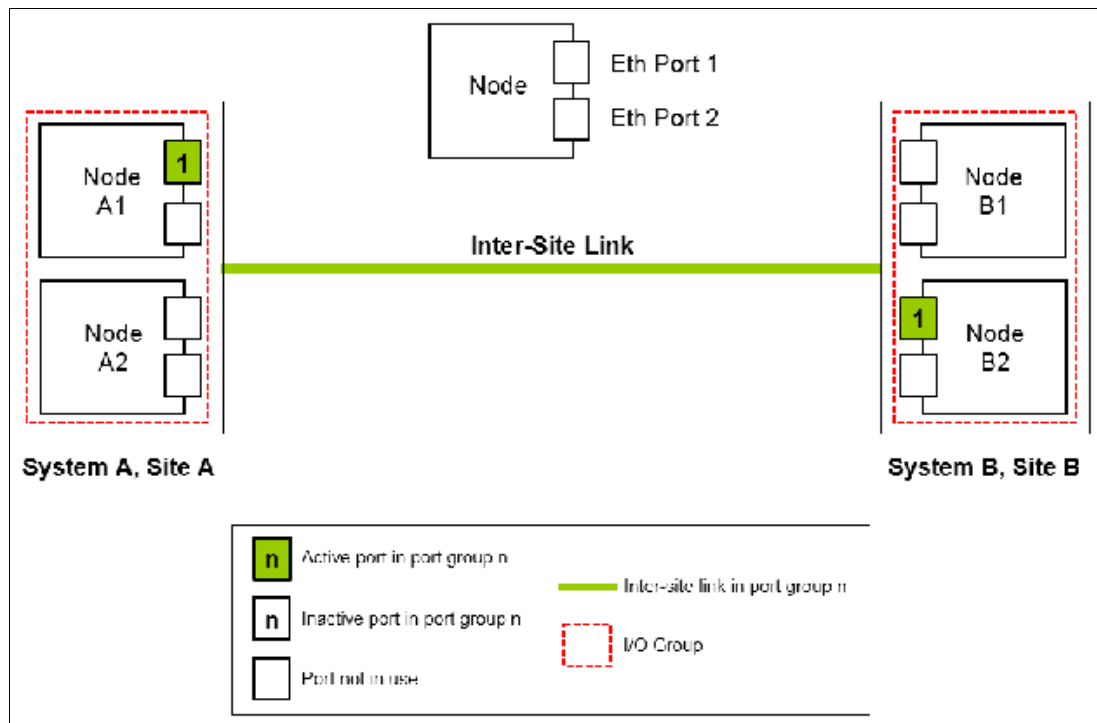

Figure 10-98 Single link with only one Remote Copy port group configured in each system
- Two 2-node systems in IP partnership over a single inter-site link, as shown in Figure 10-98 (configuration 1).
As shown in Figure 10-98, two systems are available: